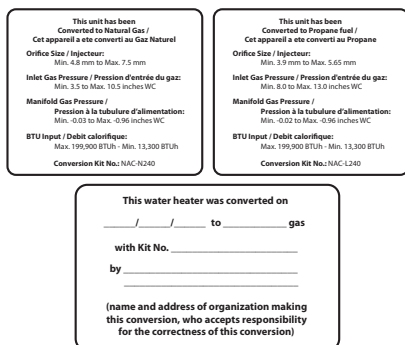

Figure 11. Proper Placement of Gas Conversion Labels
- Once the CO2 or offset values have been confirmed, apply the included conversion stickers to show that the appliance has been converted to natural gas. Place these labels adjacent to the rating plate as shown in Figure 11.